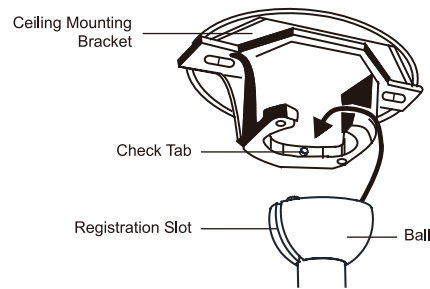

Fig. 11
Step 9. Lift the motor assembly into position and place the ball into the ceiling mounting bracket. Rotate the entire assembly until the “Check Tab” has dropped into the “Registration Slot” and seats firmly. (**Fig. 11**)